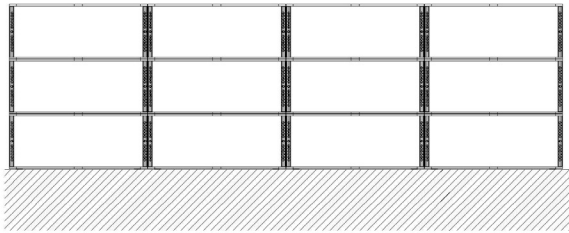

Figure 3-11 Three-high, four-wide stack
The Xsub is also available with full rigging, making possible large-scale vertical arrays at lower frequencies. The sound of these arrays benefits from the increased directivity index (DI) associated with the directional control offered when the array height becomes comparable to the radiated wavelengths. A ground stack of four Xsub enclosures offers an acoustic advantage in radiated power over a flown Xsub bass array until the flown array reaches a certain height. For example, a three-high, three-wide Xsub ground stack provides greater acoustic output than a flown array until the flown array includes at least 14 subs. In a typical 12-high flown Xsub array, the acoustic output is approximately 1dB less than that of a three-high, four-wide ground stack (see Figure 3-11 on the next page).